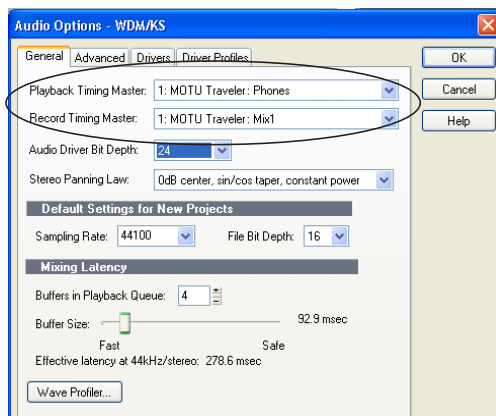

Figure 8-3: Make sure you have chosen a Traveler input and output for the playback and recording timing master settings.
- 2 Choose a Traveler input and output for recording and playback timing as shown below in Figure 8-3. It doesn’t matter which input or output you choose.